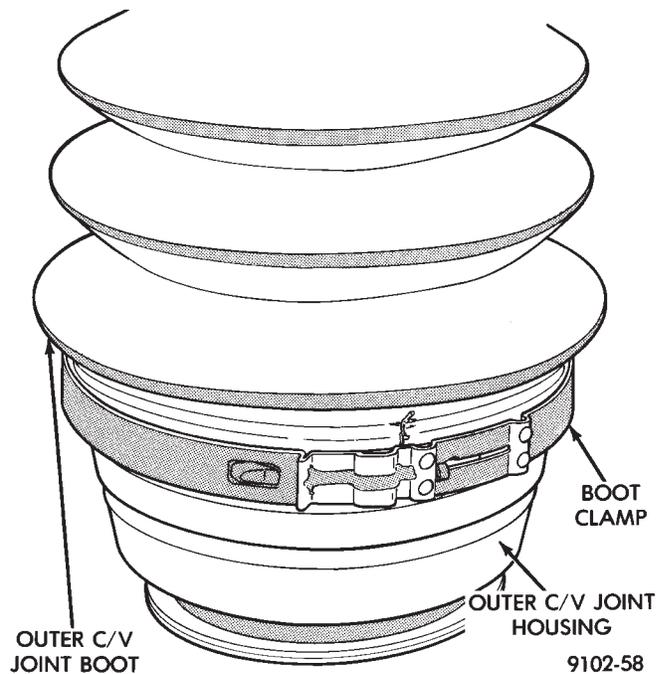

Fig. 19 Boot Clamp Installed On Sealing Boot
(3) Evenly position clamp (Fig. 19), in outer C/V joint boot clamp groove of sealing boot.